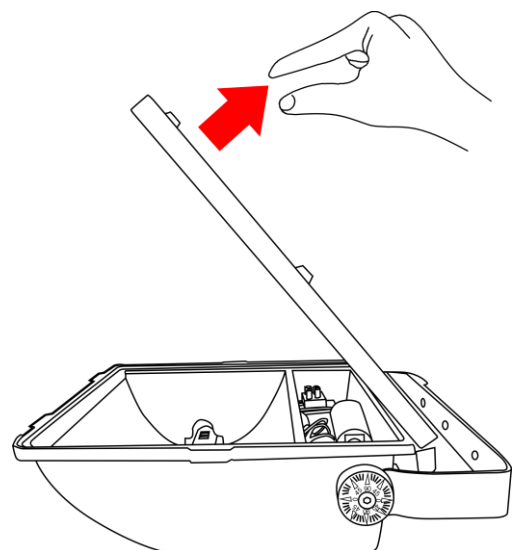

Fig. 03
- 03) Pull the glass plate in the direction of the arrow (Fig. 03).